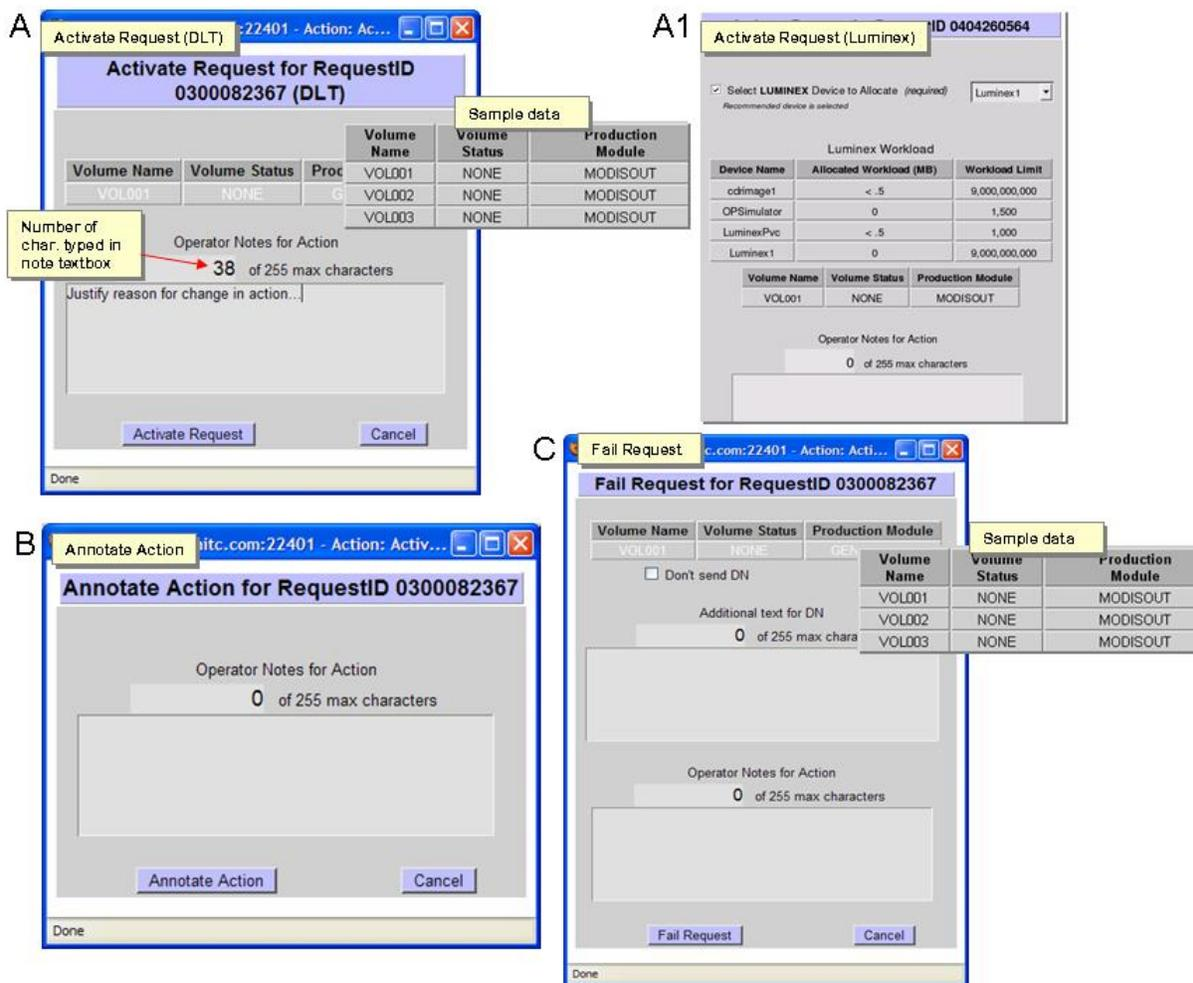

Figure 15.12-4. Activate (A, A1); Annotate (B); Fail (C) Requests Dialog Boxes
- ▶ Select button to Activate (Figure 15.12-4, Frame A, A1) or Annotate (Figure 15.12-4, Frame B) or Fail (Figure 15.12-4, Frame C) Actions.